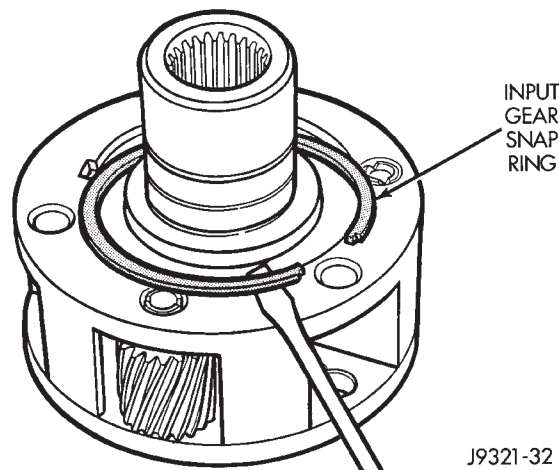

Fig. 32 Removing Input Gear Snap Ring
(1) Remove snap ring that retains input gear in low range gear (Fig. 32).